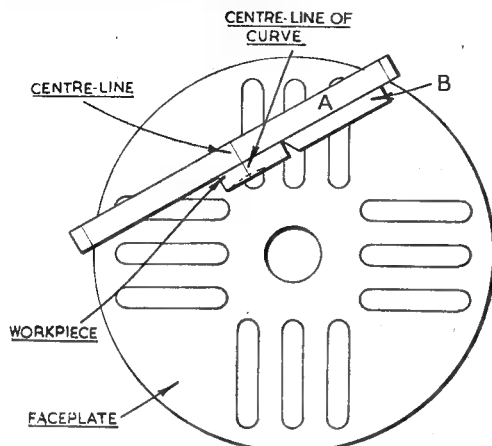

Fig. 2. Showing the position of the guide strip "A," and the end-stop "B."
As the present object is to locate the work-pieces so that they can, in turn, be machined to the given dimensions, a setting fixture is attached to the faceplate in accordance with Fig. 2. This fixture consists of ■ strip (A), some  $\frac{1}{2}$  in. in width, and an end-stop (B).
To ensure uniformity of machining, and to save having to mark-out the remainder of a batch of similar parts, a small end-stop (B) is clamped to the faceplate, as represented in Fig. 2.